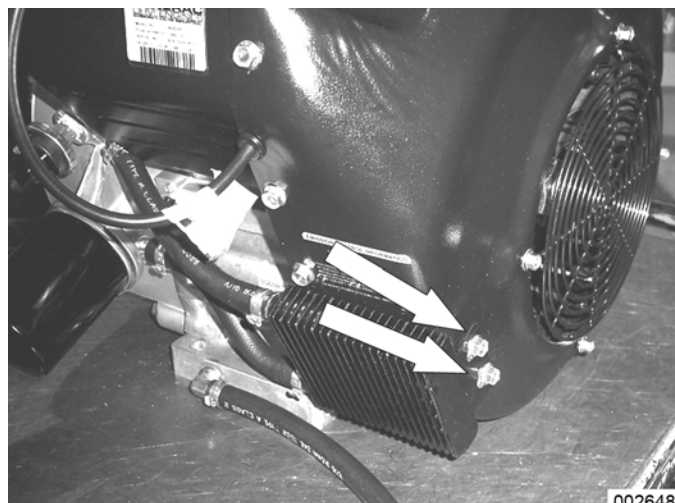
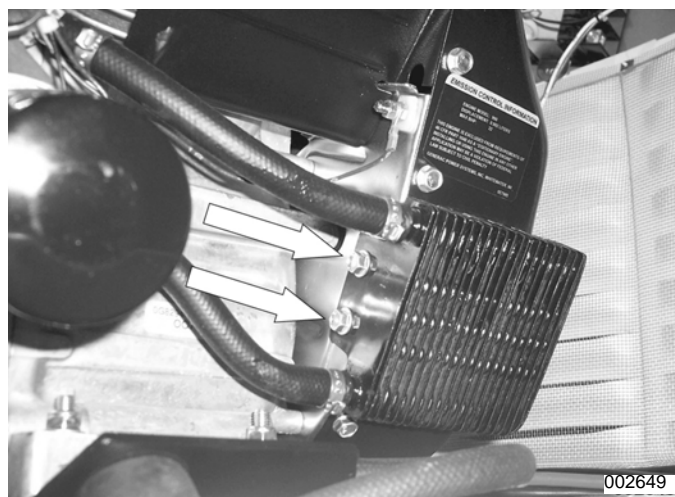

Figure 5-22.
Figure 5-23.
14. **Unbolt Oil Cooler:** See Figure 5-22. Use a 10 mm socket to remove the two 10 mm bolts from the front of the oil cooler. See Figure 5-23. Remove the two 10 mm bolts from the rear of the oil cooler.